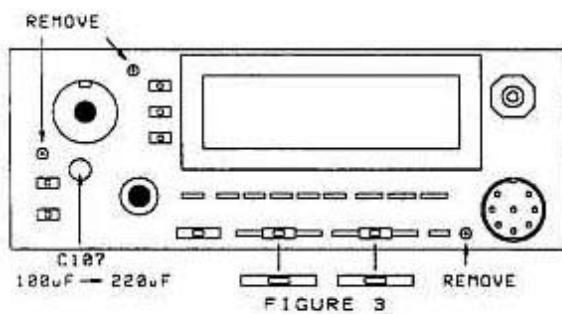

FIGURE 3
32. Replace C107 with the 220  $\mu$ F electrolytic. C107 is located between the Main and Sub rotary endoders. Figure 3.
11. Replace C17. Figure 3.